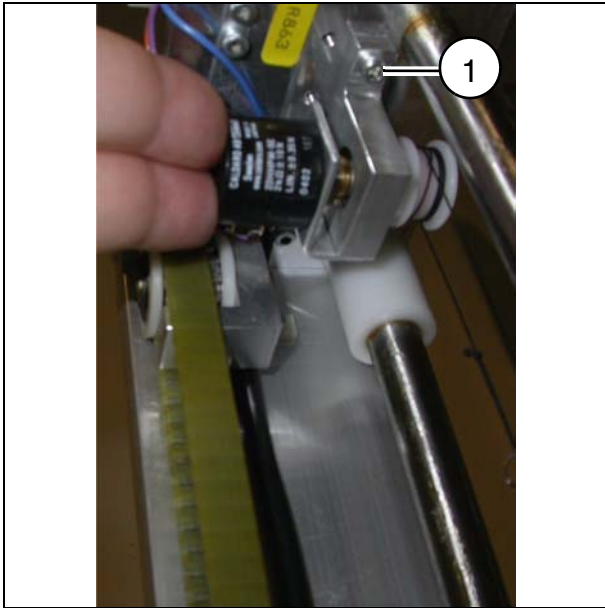

Fig. 4
- Ensure that the potentiometer with its metal enclosure does not fall out of the carrier bracket (Fig. 4) and place the Teflon pulley onto the potentiometer shaft in such a position that the noose of the cord, wound counter-clockwise a bit onto the pulley, can just be hooked back to the hex socket head screw. Hold the pulley and continue with winding the other cord about four (4) turns/windings of 360° , then hook the lower end of the spiral spring back onto the rectangular bracket. (The upper end of the spring will be just some 3 cm from the pulley).